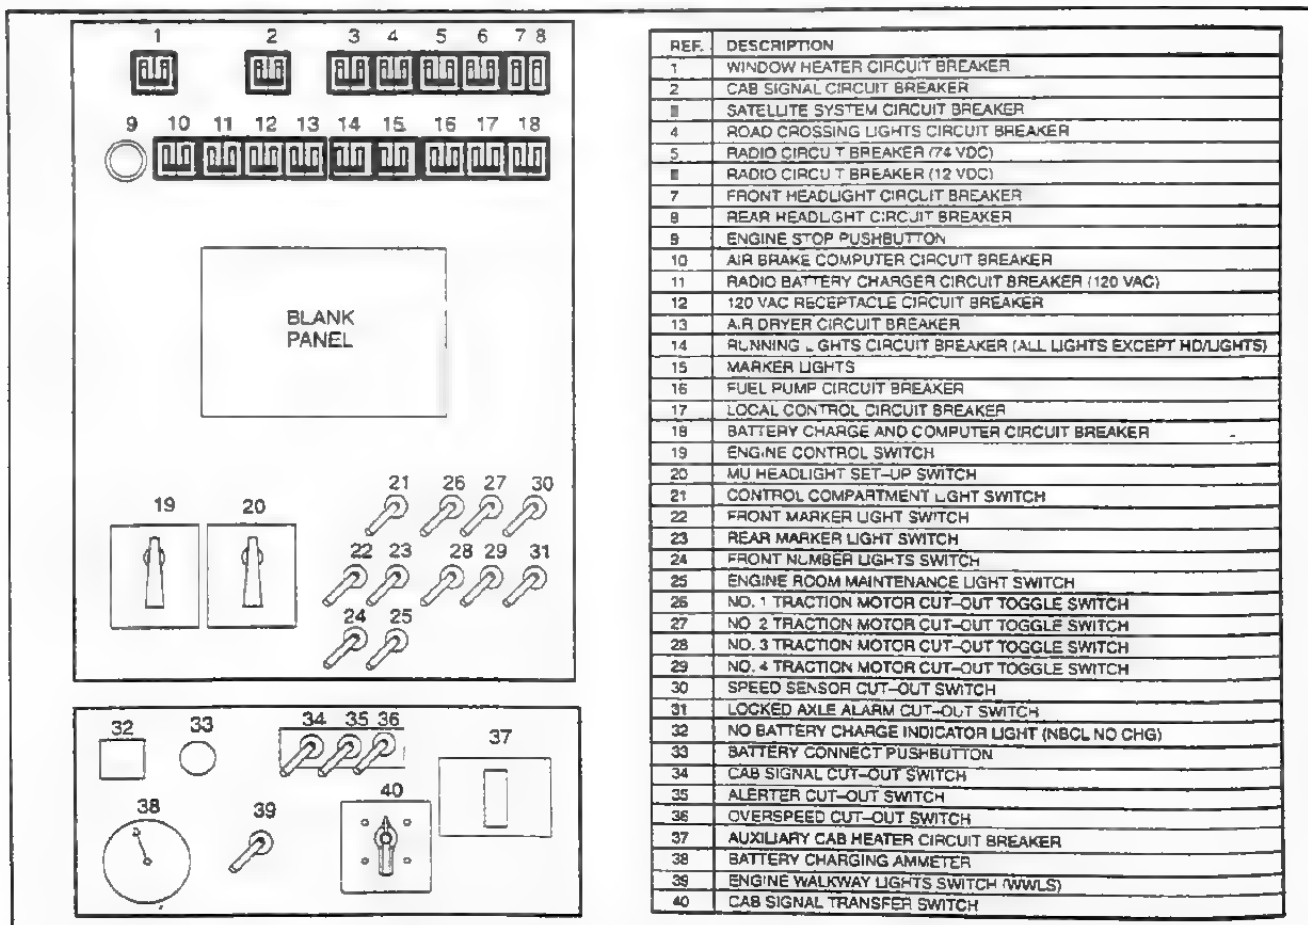

FIG. 12. ENGINE CONTROL PANEL E-42569.
This heater (6) is furnished to supply heat when the compartment air conditioner/heater is not operable or for supplemental heating on cold morning start-ups or when HEP is off. Ensure the heater four-way control (HI, LOW, MED and OFF) switch is OFF when the air conditioner is operating. A circuit breaker is supplied on the unit to shutdown heater operation in case of an internal malfunction. A circuit breaker (Item 37, Fig. 12) is also supplied to ensure safe system operation.
NOTE: Numbers in parentheses () refer to items found on Figure 12 of this publication unless noted otherwise.
NOTE: The supplied electronic air brake feature is an Electro-pneumatic system; that means the system needs locomotive battery power to function. Also, verify that the circuit breaker (Item 10, Fig. 12) on the EC panel is properly positioned.